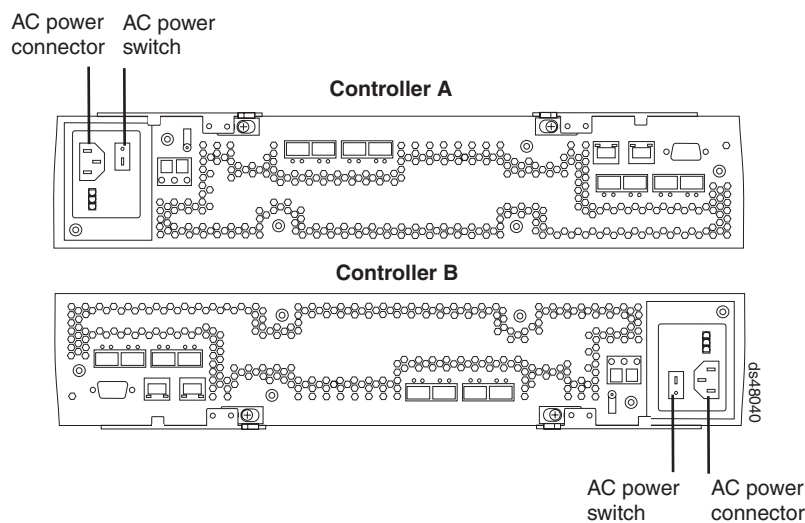

Figure 73. AC power switches on the controllers
5. Turn on the AC power switch on the back of each controller in the storage subsystem. Figure 73 shows the location of the AC power switches on the controllers.